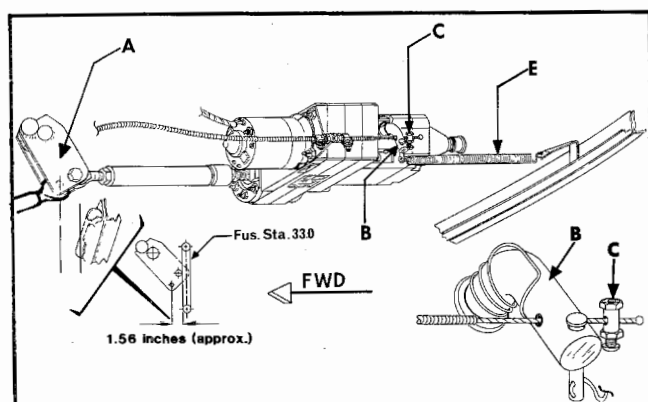

Figure 5-6. ELECTRIC GEAR ACTUATOR ADJUSTMENTS
2. Position retraction bellcrank so that center of forward hole in left outboard arm of the bellcrank is 1.56 in. (Approx.) from forward face of truss at Fus. Sta. 33.0 (See Fig. 5-6).
1. Insert cable thru hole in actuator disengage arm, B, Fig. 5-6.
2. With red lever in full disengaged position (down and latched) push actuator disengage arm, (B), to full forward position and apply approx. 5 lbs. pull to cable to remove slack.
3. Install D222 wire stop, (C), tighten nut and connect spring, (E), to clevis pin (D).